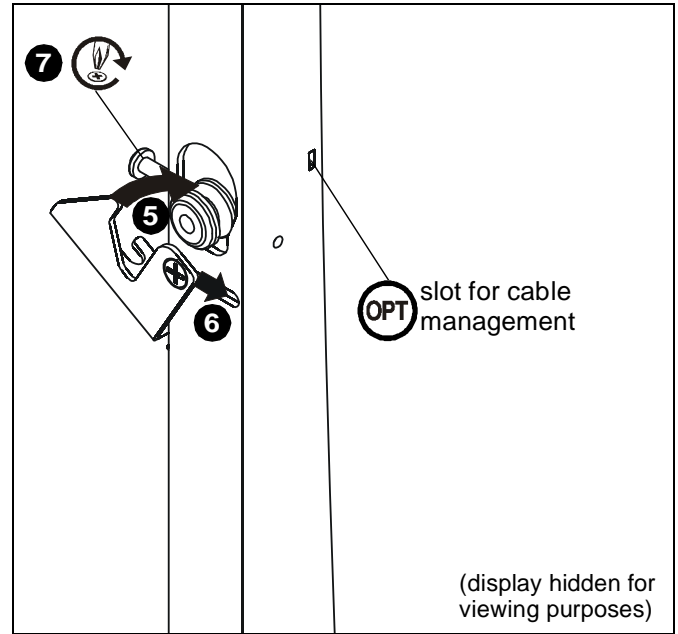

Figure 9
5. Move locking flag to closed position by wrapping it around mounting button. (See Figure 9)
6. Slide flag towards center of the mount to secure flag around mounting button. (See Figure 9)
7. Tighten screw to push mounting button towards center of mount and further secure display to mount. (See Figure 9)
NOTE: Slots on vertical brackets can be used for cable management by using cable ties (G) to secure cables to brackets. (See Figure 9)